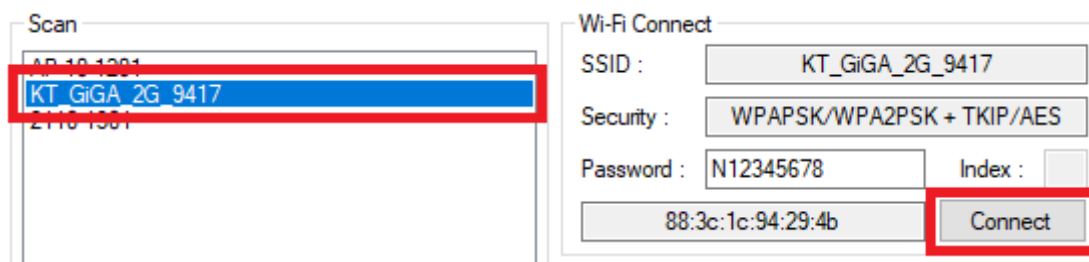

Figure 17. Station mode – select AP and connect
3. When scanning is finished, select one AP in the list, see Figure 17.